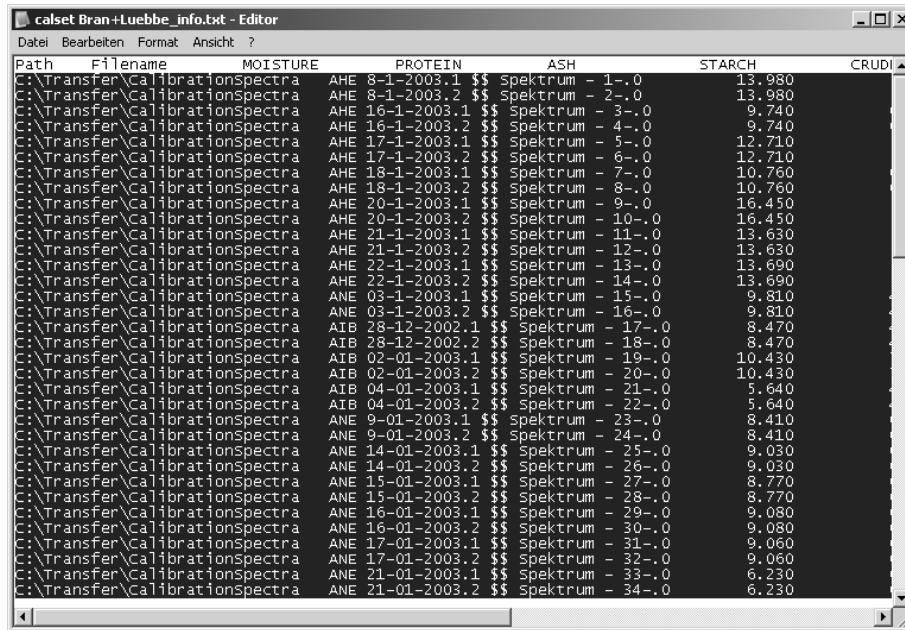

Figure 123: Text File
- In the directory of the 3D-JCAMP file, a text file (<File-Name>_info.txt) has been created. This file contains the path and the file names of the spectra as well as the component values of the individual components. Open this text file using a normal text editor. Copy the content of the text file (except for the first row) into the clipboard. See figure 123.